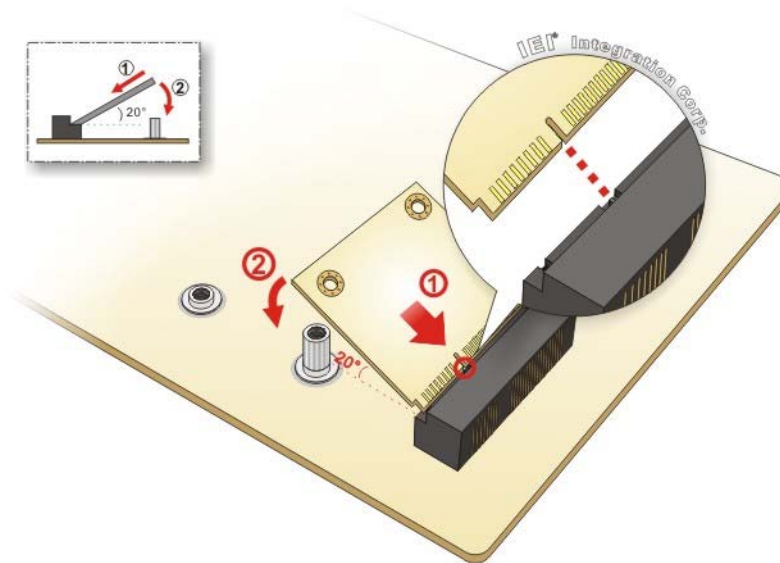

Figure 4-7: Inserting the Half-size PCIe Mini Card into the Slot at an Angle
Step 5: Insert into the socket at an angle. Line up the notch on the card with the notch on the slot. Slide the PCIe Mini card into the slot at an angle of about 20° (Figure 4-7).